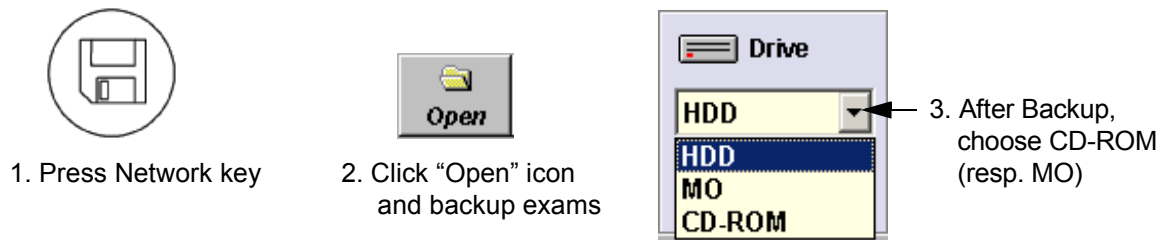

Figure 7-20 To backup exams to CD-ROM resp. MO-Disk
- 2.) Enter "Sonoview" by pressing the **NETWORK** key on the control panel; see Figure 7-20.